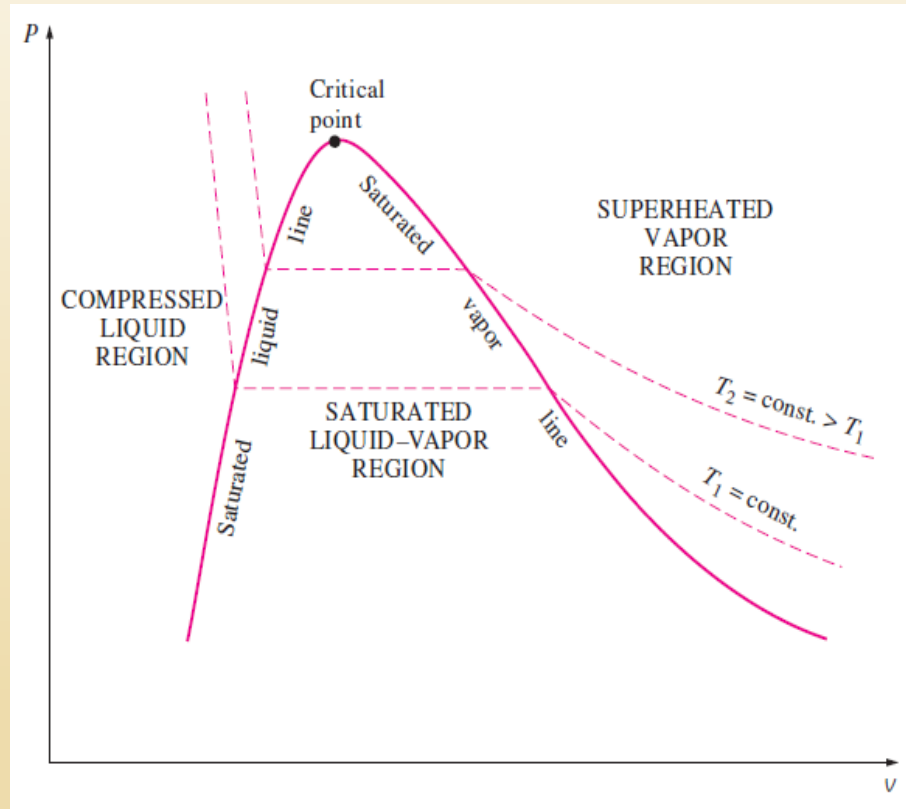

Fig:3.6 P-v diagram of a pure substance
- The general shape of the P - v diagram of a pure substance is very much like the T - v diagram, but the T =constant lines on this diagram have a downward trend, as shown in Fig. 3.6.